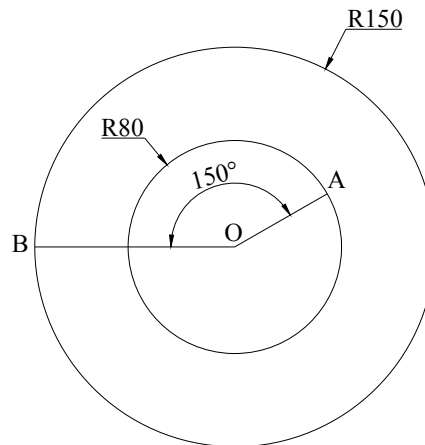

Figure 1.2
a) A **part** of a convolution of an Archimedean spiral passes through point A. It coils clockwise about O and after going through an additional 210°, it reaches point B. Points O, A and B are located as in Figure 1.2. Construct the part of the convolution from A to B. **(6 marks)**